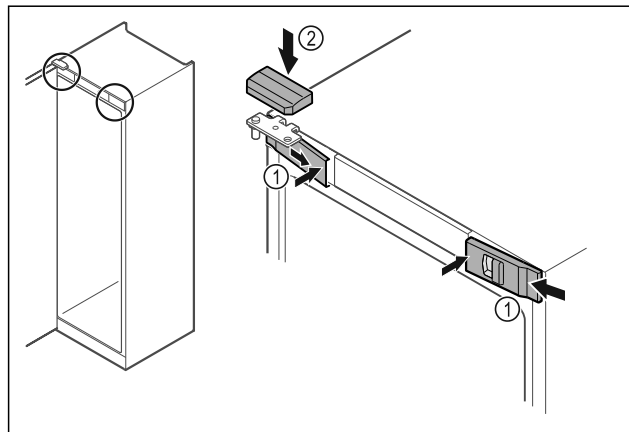

Fig. 45
- Hook in the front covers Fig. 45 (1) on the side and snap them into place on the inside.
- Snap on the top cover Fig. 45 (2) from above.